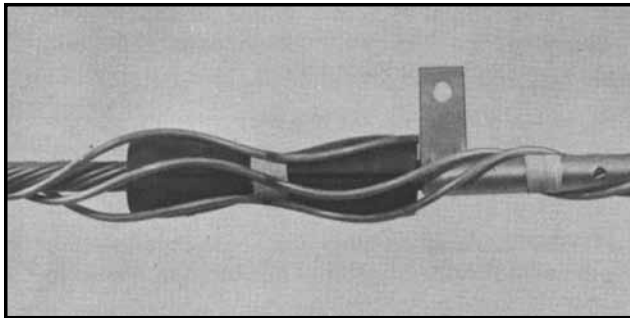

Figure 7
- 3.04** Apply second rod on opposite side of short leg of Current Transfer Tab so the tab extends through the gap between the two rods (Figure 7). Apply the rest of rods at equal intervals. **DO NOT OVERLAP, CROSS OR DISTORT RODS.**